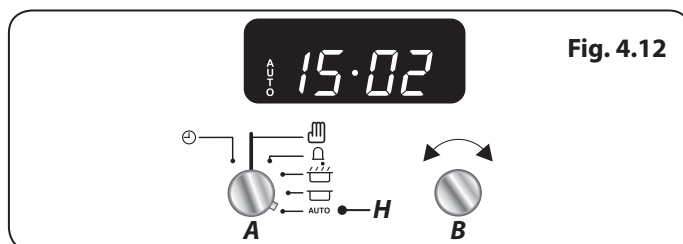

Fig. 4.12
5. Turn the **Timer (A)** knob to the **Auto (H)** setting (**Fig. 4.12**). If the display shows the current time and the word 'AUTO' the oven is set to turn on and off.